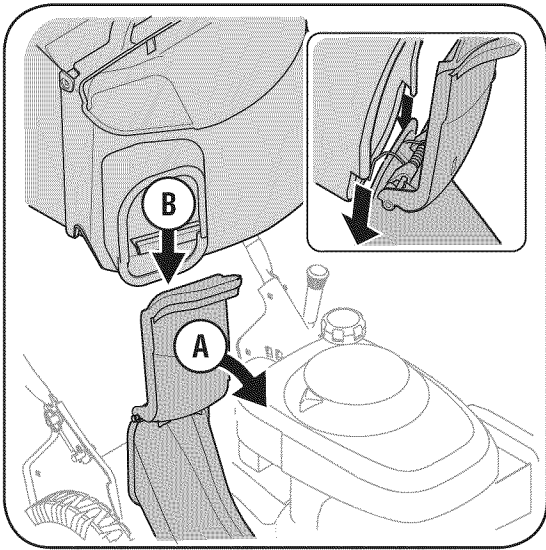

Figure 3-5: Attach the grass bag to discharge chute.
- c. Lift chute door on the discharge chute and slide grass bag onto the chute, Figure 3-5.